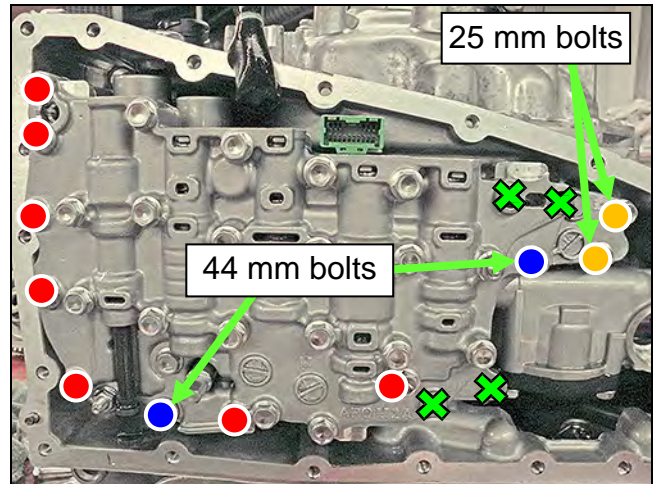

Figure 3A
2. Install the Control Valve with eleven (11) mounting bolts (Figure 3A).